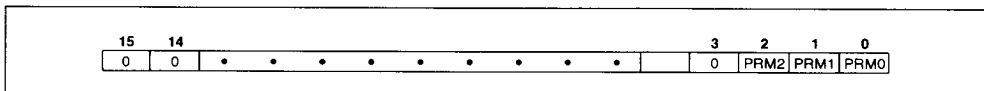

Figure 26. Priority Mask Register Format
This register masks all interrupts below a particular interrupt priority level. The format of this register is shown in Figure 26. The code in the lower three bits of this register inhibits interrupts of priority lower (a higher priority number) than the code specified. For example, 100 written into this register masks interrupts of level five (101), six (110), and seven (111). The register is reset to seven (111) upon RESET so no interrupts are masked due to priority number.